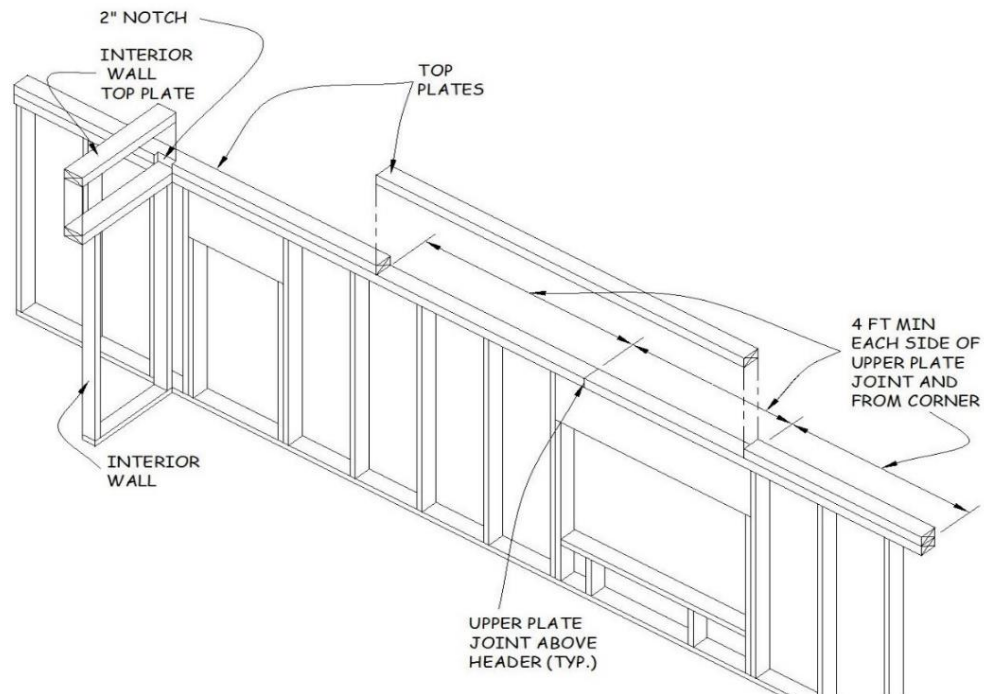

Figure 5-5. Exterior Wall Top Plate Installation.
2. The top plate on all bearing walls must extend a minimum of 4' on each side of the wall plate joint, and at each corner (see Figure 5-5.).